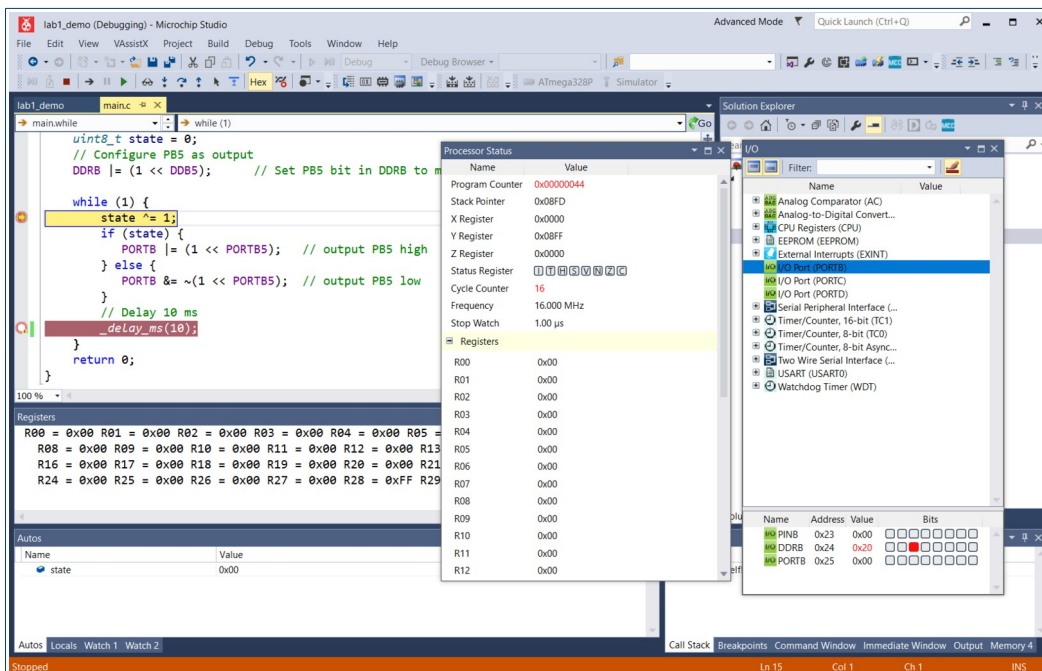

Figure 6: Breakpoint settings and simulated code execution
- 2.3 Set breakpoints on selected lines of code in **main.c** before stepping through the compiled code (see **Figure 6**).